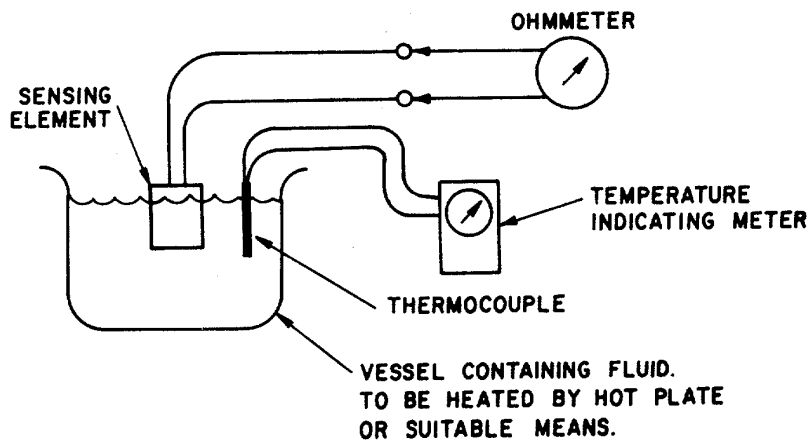

Figure 8-4. Thermostat Test Set-up
- a. **Replacement.** Remove cap (8) and grommet (10) from cap (11) to gain access to sensing unit (13) terminations. Tag and remove wires from thermostat. Remove thermostat sensing unit (13). Immerse sensing unit into hot water. As hot water temperature reaches 120°F, sensing element contacts shall open (infinite ohms reading). As water temperature cools to 100°F, sensing element shall reclose (0 ohms reading). See figure 8-4.